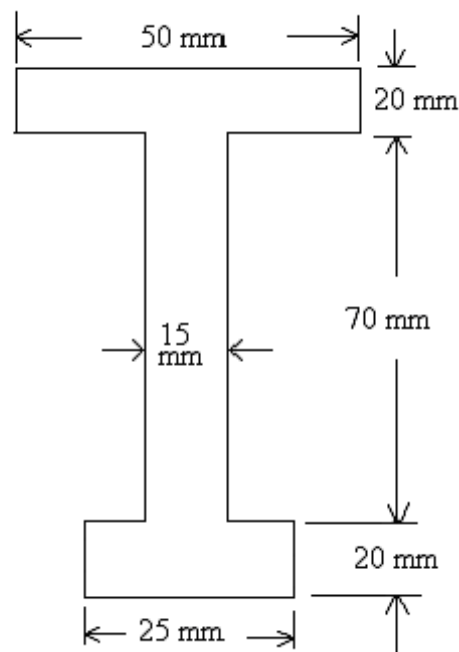

Figure 3
3. The cross-section of a beam is shown in figure 3. The beam is made of material with permissible stress in compression and tension equal to 100 M Pa and 140 M Pa respectively. Calculate the moment of resistance of the cross-section, when subjected to moment causing compression at the top and tension at the bottom. [16]